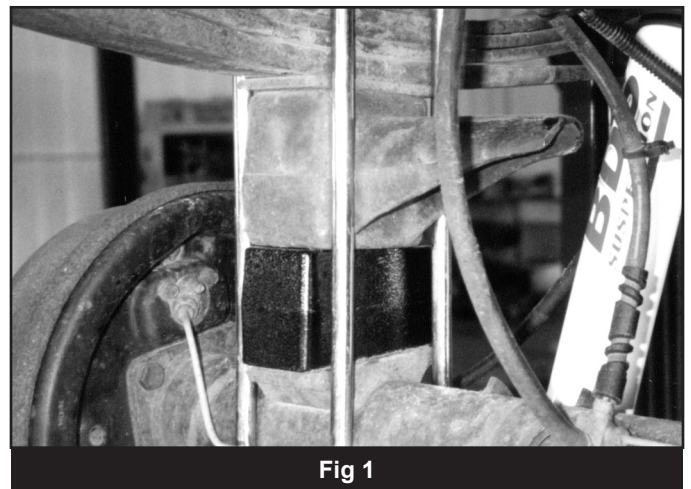

Fig 1
8. Install the 3" block between the original block and the axle. Be sure to inspect the perch on the axle to insure that it is flat and in good condition. Be sure the block pins line up (Fig. 1)